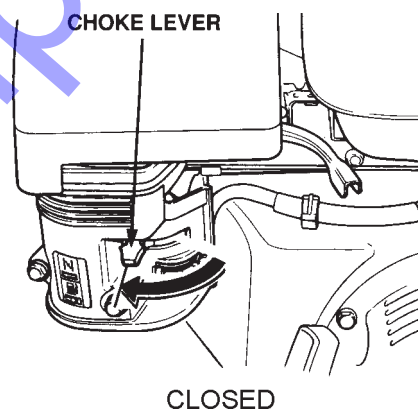

Figure 10. Engine Choke Lever (Closed)
4. Place the **choke lever** (Figure 10) in the "CLOSED" position if starting a *warm engine* or the *temperature is warm*.